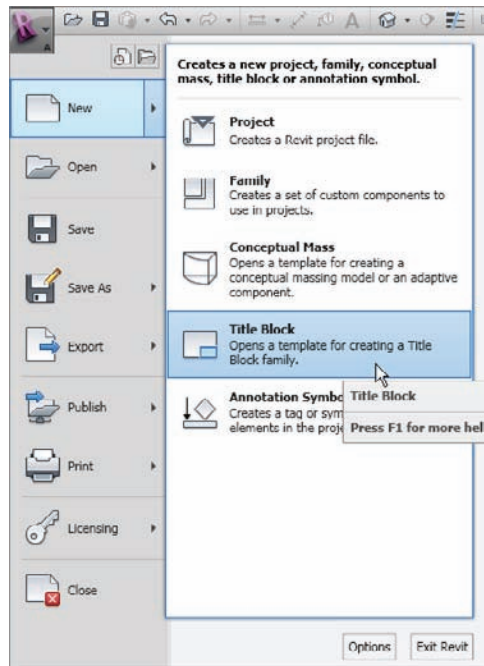

FIGURE 14.26 Creating a new title block
1. Click the Application button, and choose New > Title Block, as shown in Figure 14.26.